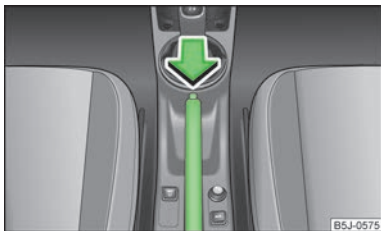

Fig. 83
- » Pull the handbrake lever up slightly and **at the same time** push in the locking button » Fig. 83.